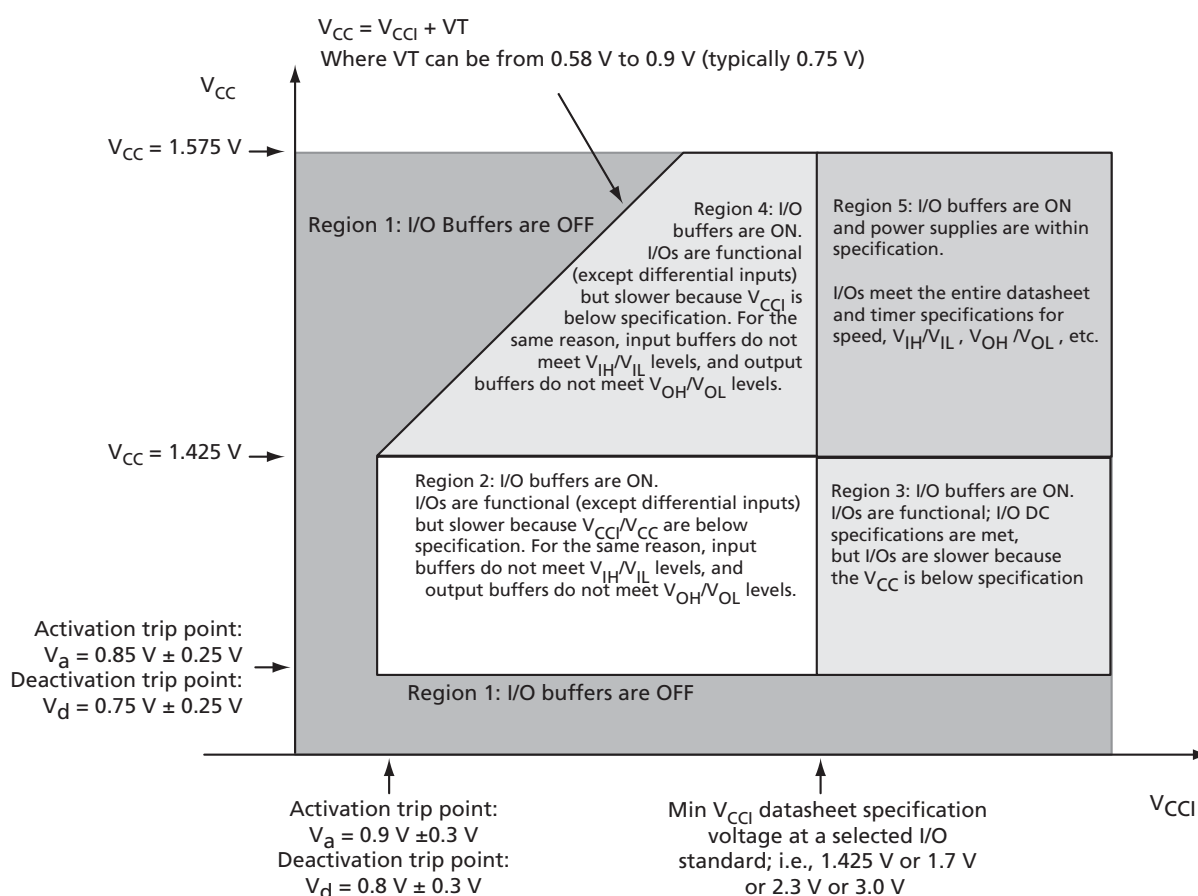

Figure 3-1 • I/O State as a Function of V_{CCI} and V_{CC} Voltage Levels
Sophisticated power-up management circuitry is designed into every Fusion device. These circuits ensure easy transition from the powered off state to the powered up state of the device. The many different supplies can power up in any sequence with minimized current spikes or surges. In addition, the I/O will be in a known state through the power-up sequence. The basic principle is shown in Figure 3-1 on page 3-6.
1. V_{CC} and V_{CCI} are above the minimum specified trip points (Figure 3-1).
Actel recommends using monotonic power supplies or voltage regulators to ensure proper power-up behavior. Power ramp-up should be monotonic at least until V_{CC} and V_{CCPLX} exceed brownout activation levels. The V_{CC} activation level is specified as 1.1 V worst-case (see Figure 3-1 on page 3-6 for more details).